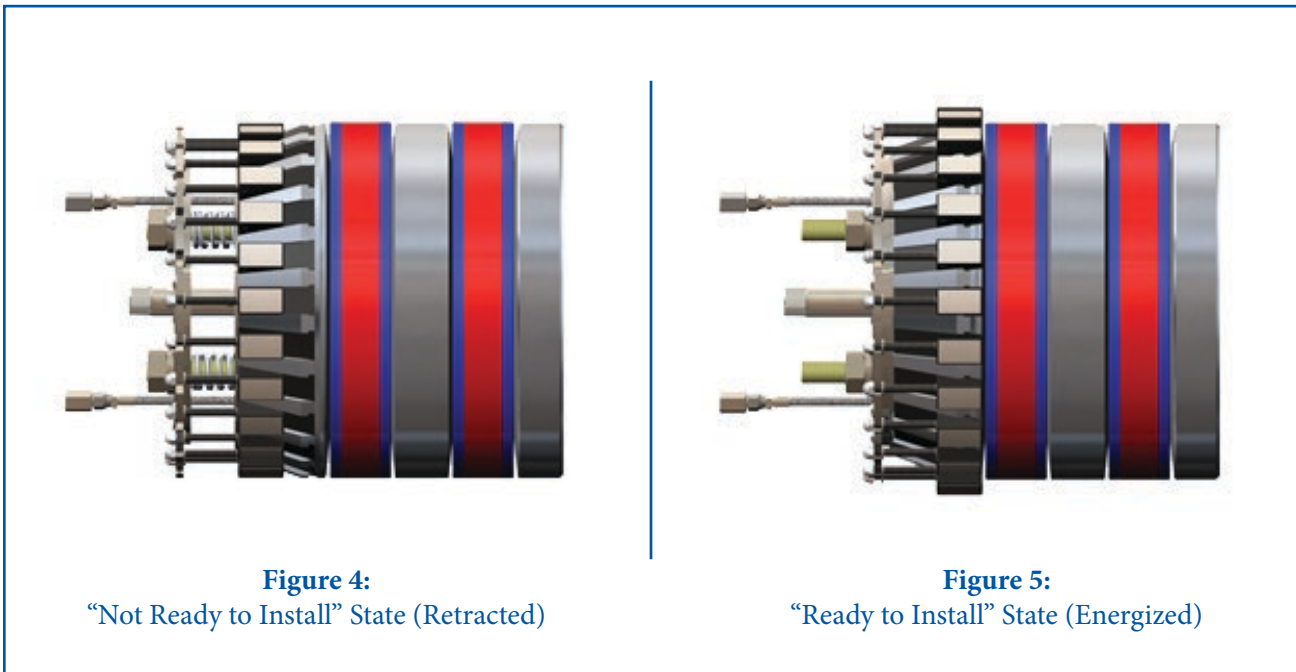

Figure 4:
- If insertion into the pipe proves problematic in the “Ready to Install” state (see **Figure 5**), it may be advantageous to insert the plug in the “Not Ready to Install” state (see **Figure 4**). To do so, loosen all **Compression Hex Nuts(18)** to the top of their respective **All-Thread Shafts(11)**. Care should be taken to not completely remove the **Compression Hex Nuts(18)** from the assembly. In this orientation, the **Gripping Wedges** will be fully retracted and the plug can be inserted freely into the pipe.